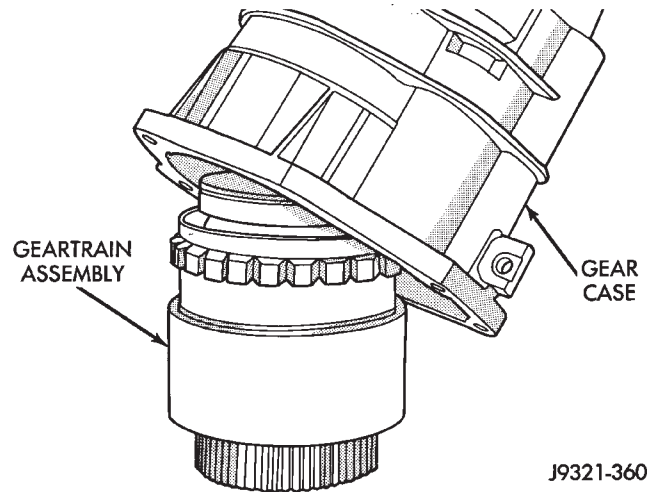

Fig. 60 Overdrive Gear Case Installation
- (7) Support geartrain on Tool 6227-1 (Fig. 60). Be sure tool is securely seated in clutch hub.
- (8) Install overdrive gear case on geartrain (Fig. 60).